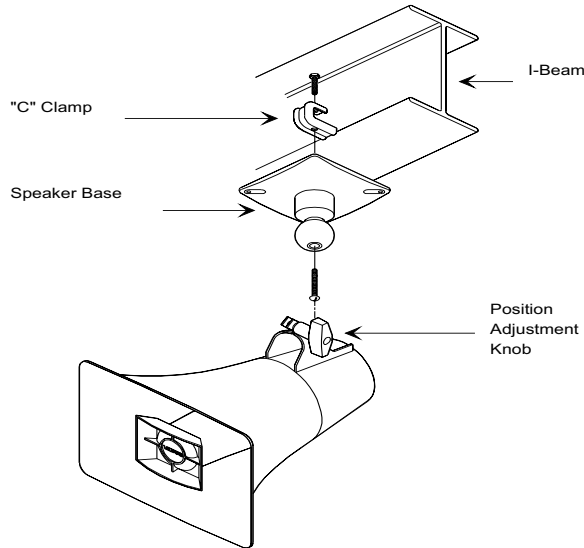

Figure 1 - Mounting to a Beam with a "C" Clamp
- A "C" clamp is provided with the ringer to allow mounting to a beam. Place the bolt through the hole in the bottom of the base to secure the "C" clamp to the beam. (See Figure 1).
The V-9925A may be rotated or moved up and down to obtain the desired position by loosening the knob (See Figures 1 & 2) at the bottom of the unit approximately 1 turn. Make required adjustment and re-tighten knob.